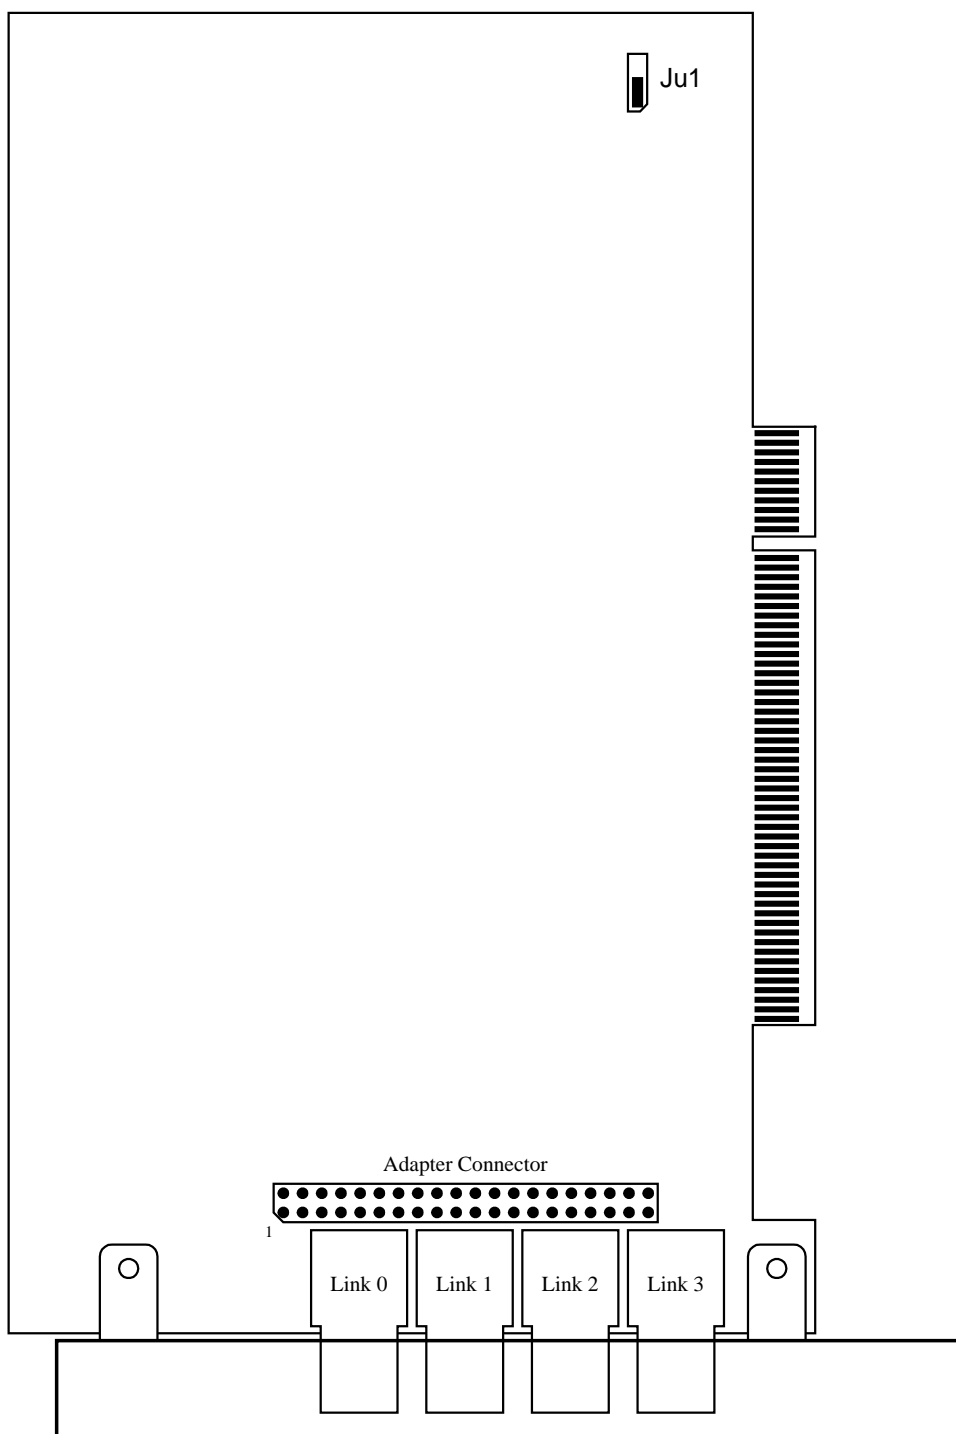

Figure 3 - Board Layout
5. Make sure that jumper Ju1 on BBK-PCI is seated as illustrated in Figure 3.
This connector option incorporates all signals in one external socket and is intended for special solutions. It is connected to the internal adapter header with a ribbon cable. Should you ever disconnect this be careful when reconnecting it in order to match the colour-marked side of the ribbon with pin no. 1 of the header as it is indicated in Figure 3 - Board Layout.